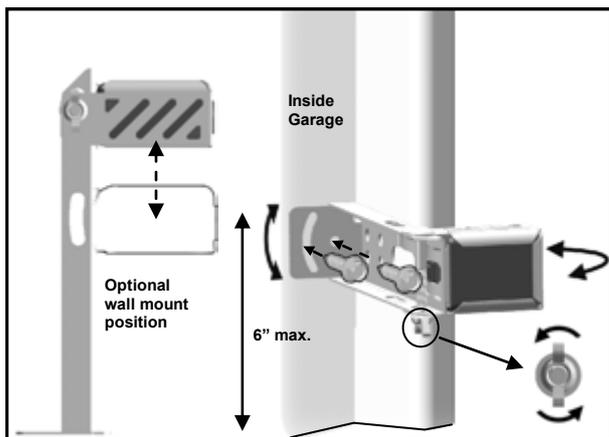

Fig. 1 (Wall-mount)
1. Place the Photo Eyes facing each other on each side of the garage door. Position the sensors so they are no higher than 6" (15cm) above the floor, as shown in Fig.1.